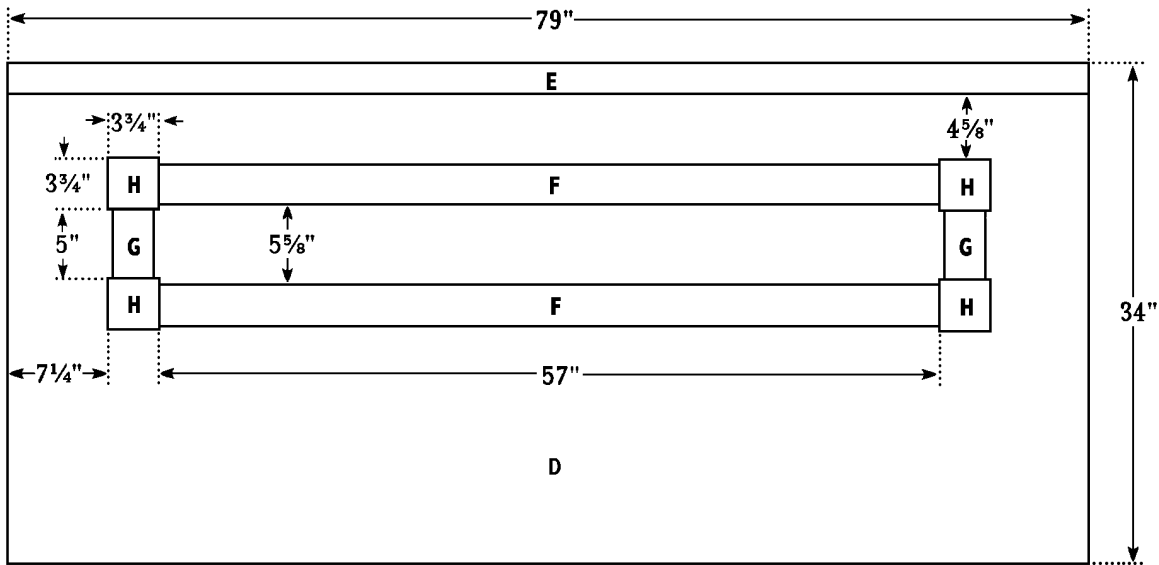

Figure 4
1. Cut one Headboard (D) from $\frac{3}{4}$ " plywood measuring 79 x 34 inches.
2. Cut two Top Rails (E) from 2-1/4" handrail, each measuring 79 inches.
3. Center one Top Rail (E) over the one 79-inch-edge of the Headboard (D), as shown in Figure 4. Apply glue to the meeting surfaces, and nail through the Top Rail (E) into the edge of the Headboard (D) using 2" finishing nails spaced every 6 inches. Set the remaining Top Rail (E) aside. It will be used later on the Footboard.
4. Cut two Long Moldings (F) from 3-inch-wide beaded molding, each measuring 57 inches.